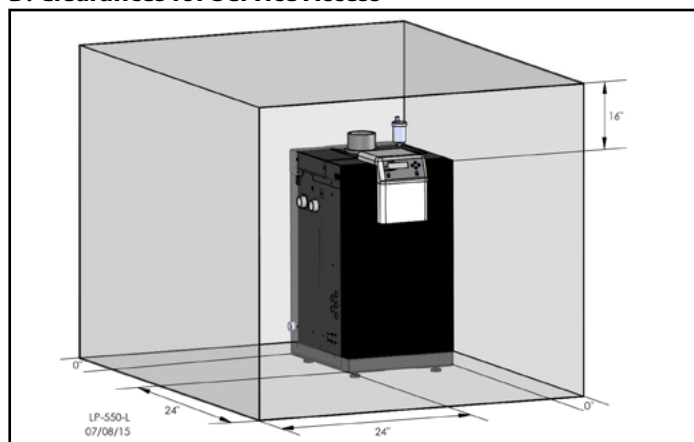

Figure 2 - Recommended Service Clearances
**NOTE:** If you do not provide the minimum clearances shown in Figure 2 it might not be possible to service the boiler without removing it from the space.